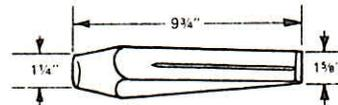

Fig. 20—Wedge
- Wear safety goggles when striking wedge. See Fig. 20.